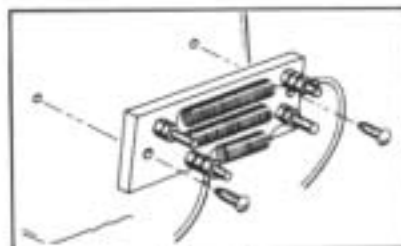

Figure 27
MOUNTING. Using the resistor as a template, mark and drill two (2) 3/16" holes on the engine side of the fire wall, and mount, using two screws. (See Figure 27)